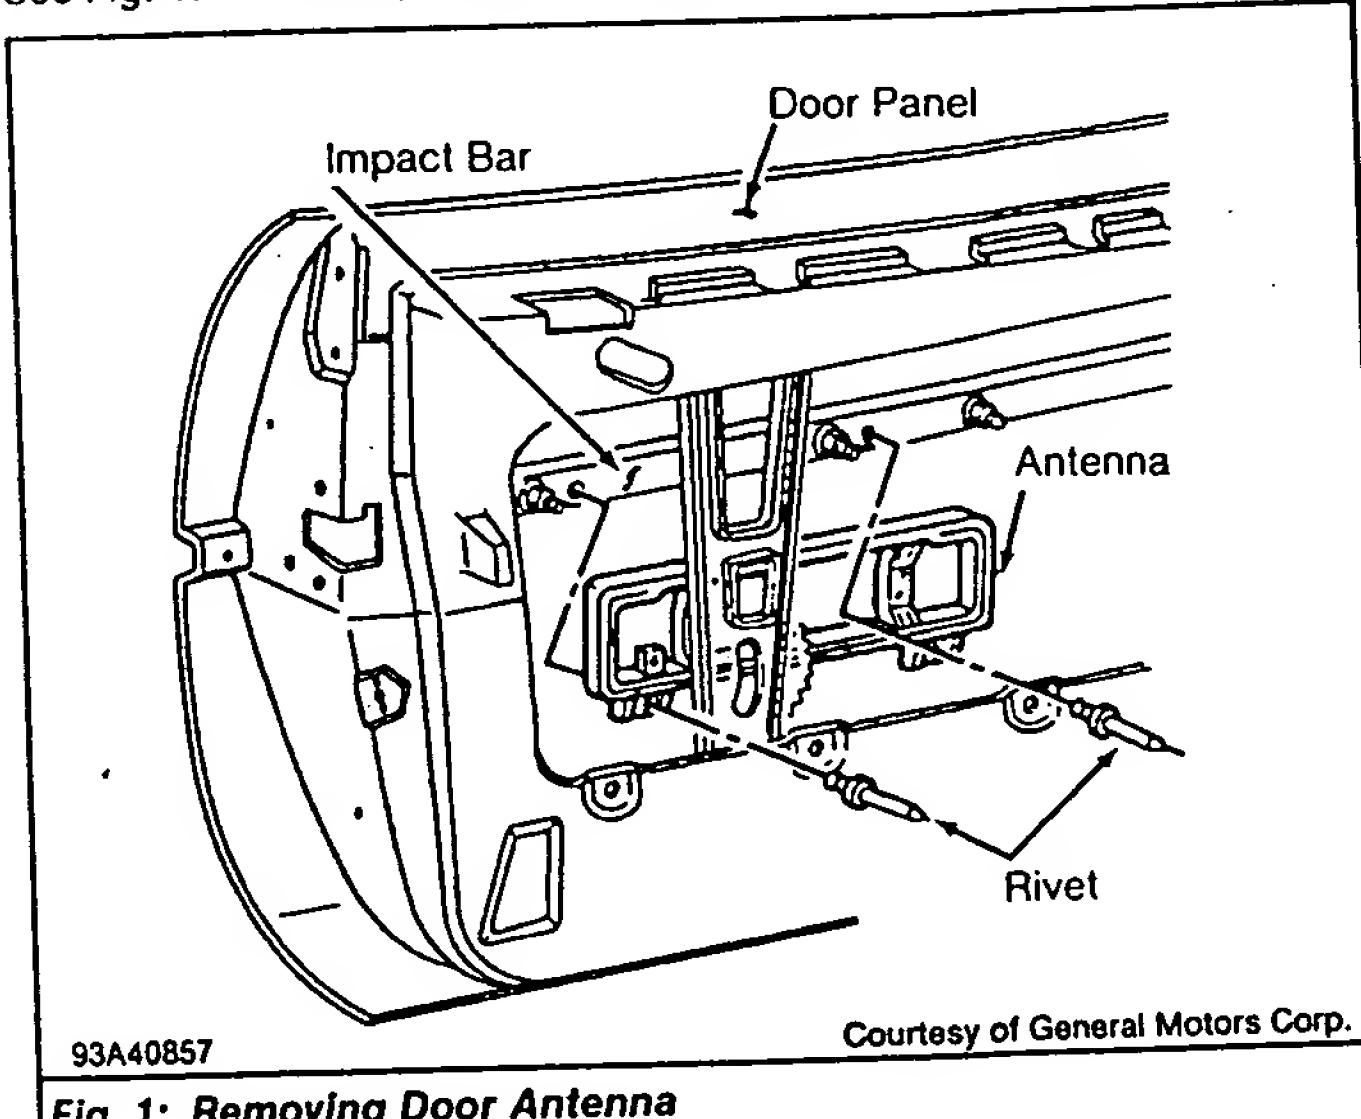

Fig. 1: Removing Door Antenna
**Removal & Installation** – Remove door outside protective molding. Remove door trim panel. Remove door accessory mounting plate. Drill out antenna mounting rivets. Disconnect harness connector and retaining clip. Remove antenna by pulling firmly on each adhesive pad. See Fig. 1. To install, reverse removal procedure.